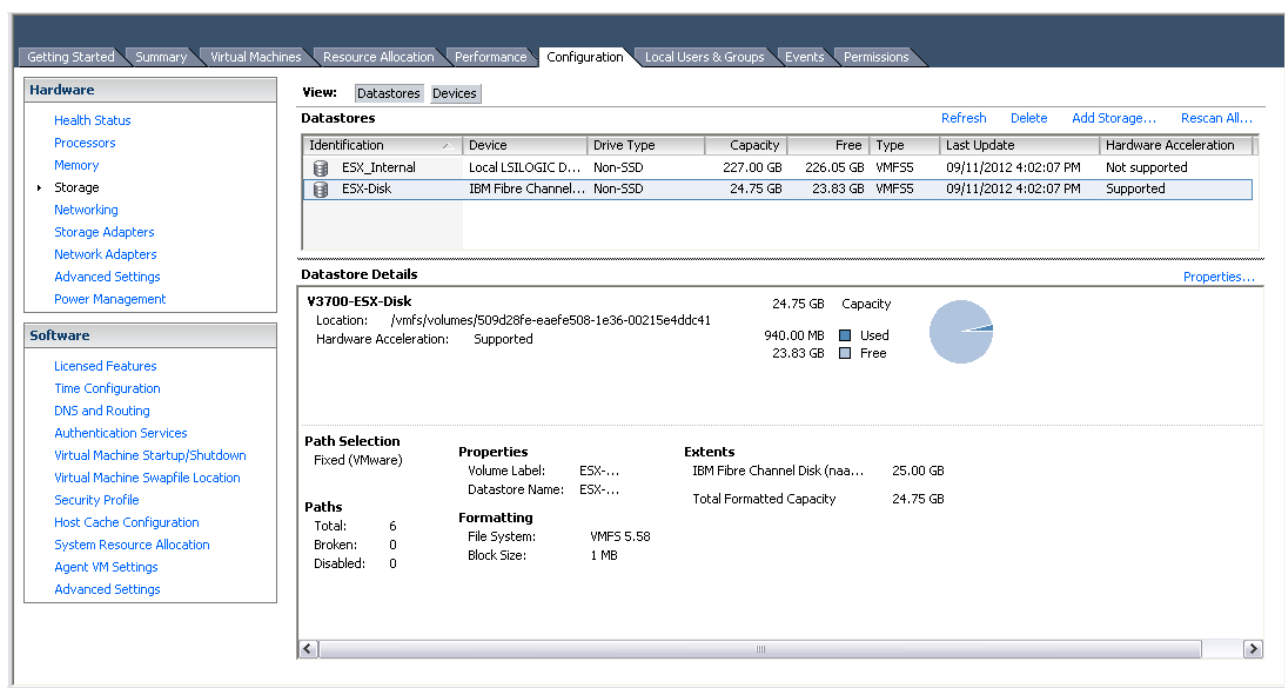

Figure 5-57 Add Storage task complete
- Follow the wizard to complete the attachment of the disk. After you click **Finish**, the wizard closes and you return to the storage view. In Figure 5-57, you see that the new volume is added to the configuration.